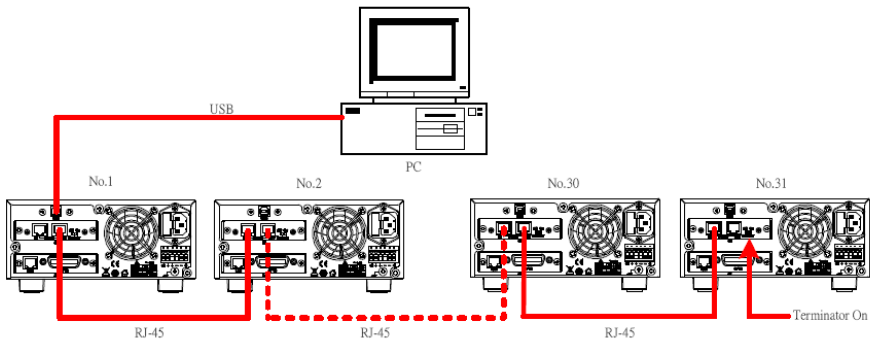

Figure 15- RS-485 Setup to Control Multiple Supplies (USB)
6. With a USB Type A to Type B cable, connect one end to the USB interface of the first power supply. Connect the other end to a PC to be used to control all the supplies. Refer to Figure 15 to verify your connections.